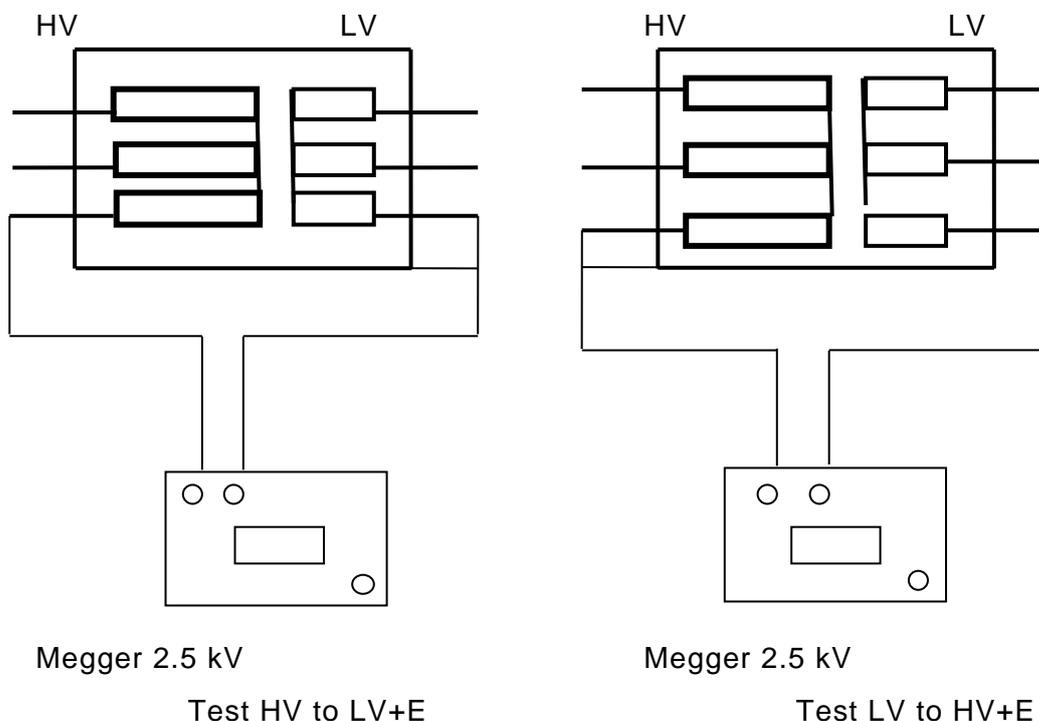

Figure 21.3: Connections for Insulation test on a 3 phase VT typical in distribution substations
- Connect megger as shown in Figure 21.3